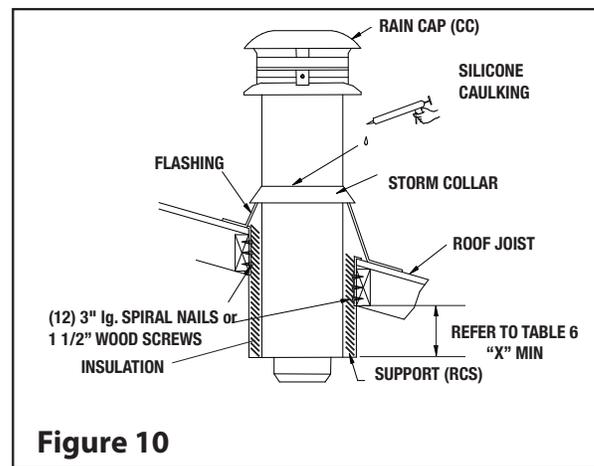

Figure 10
Step 3: Use a level to ensure the support is vertical. If the support extends above the roof, cut it flush with the top of the roof. Attach the support to the framed opening using (12)-3” spiral nails or #8 x 1 1/2” wood screws (see Figure 10).
Step 4: Place first chimney length into the support. Twist to lock into place. Wrap the insulation pad around the chimney section removing any excess. Slide insulation pad into the space between the chimney section and support making sure the insulation makes contact with the bottom of the support. Additional pieces of insulation can be loosely tucked down within corners. Do not compress insulation. This reduces effectiveness. Where desired, an extension (SE) is available for the support. This may be needed in steeper cathedral applications. Approved insulation can be used within the extension. It must be listed/compliant with ASTM E136/ULC S114 as non-combustible, have a melting temperature above 2000°F/1100°C, and be water resistant with low moisture